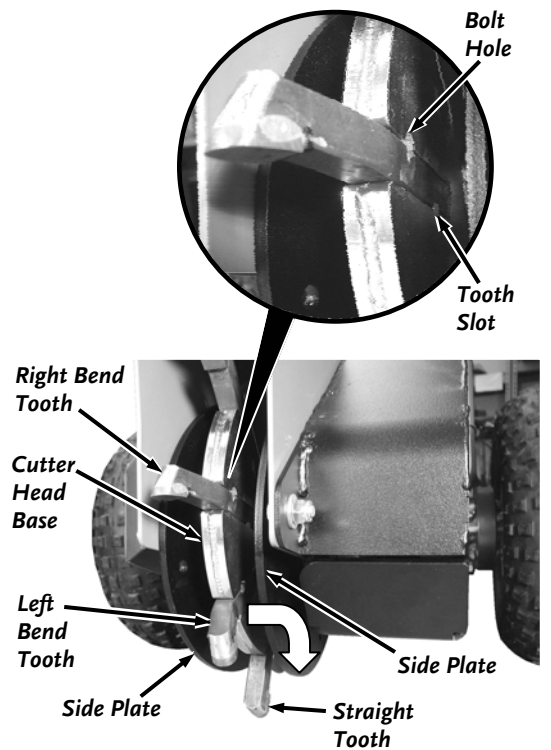

Figure 23
3. Move the Side Plates away from the Cutter Head Base to gain access to the Teeth (**Figure 23**).